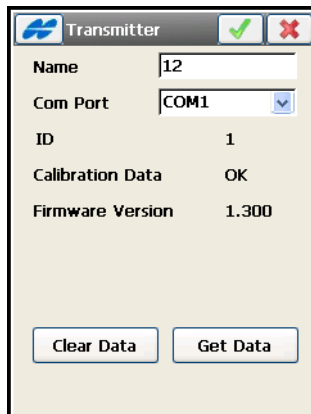

Figure 8-42. Transmitter
- **Add** – opens the **Transmitter** screen (Figure 8-42 on page 8-41) to get the transmitter data.
- **Edit** – opens the **Transmitter** screen (Figure 8-42 on page 8-41) to change the information on the transmitter.
On the *Transmitter* screen (Figure 8-42 on page 8-41), set the following parameters: